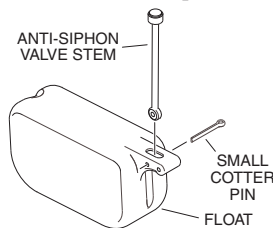

Figure 2
- Position the anti-siphon valve stem assembly in the slot of the float and slide the 1-1/8" cotter pin (smallest of the two cotter pins) through the float and the valve stem assembly (see Figure 2) then spread the end of the cotter pin open slightly. When properly installed, the valve stem assembly should pivot freely on the cotter pin inside the float.